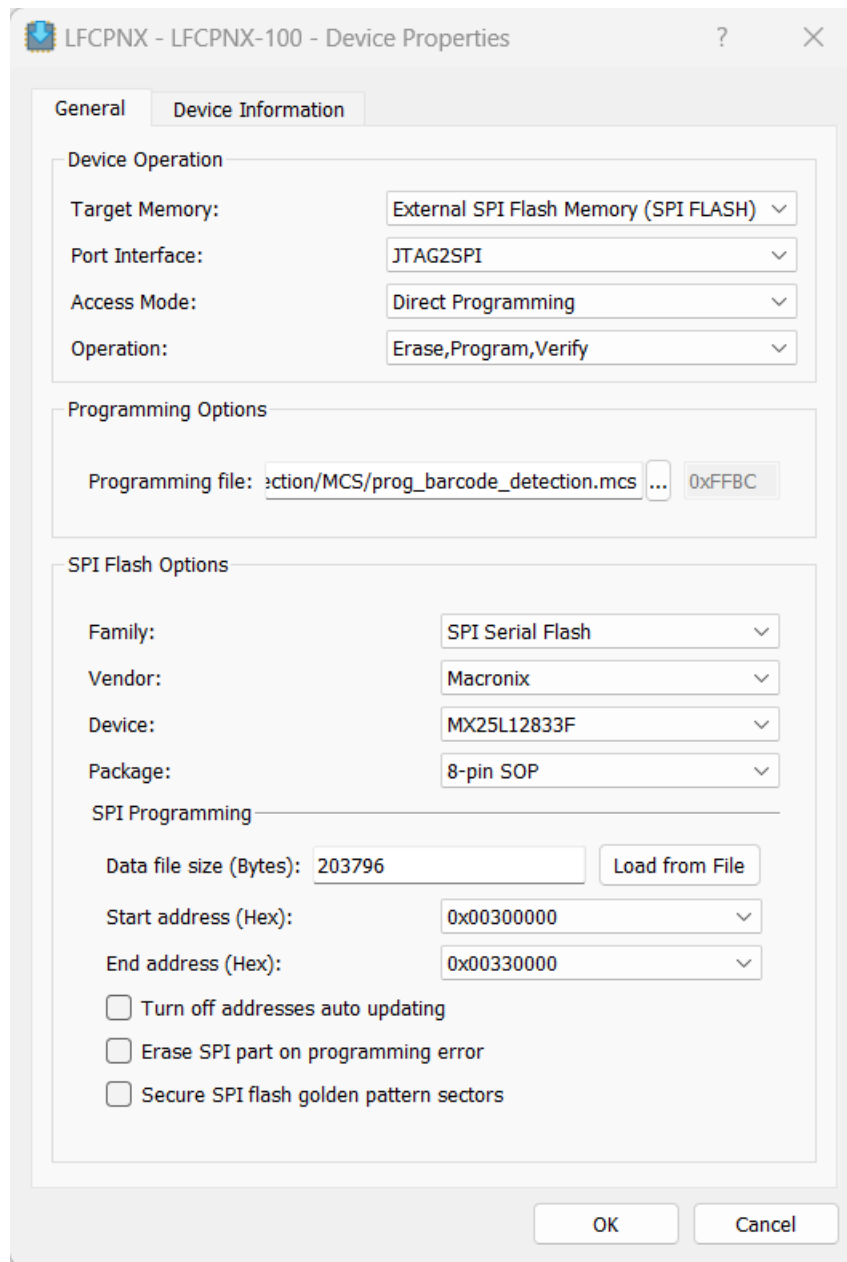

Figure 4.9. Radiant Programmer – Selecting Device Properties Options for CertusPro-NX Flash
4. In the Device Properties dialog box, configure the options as shown in Figure 4.9.
- b. For SPI Flash Options, select the configurations as shown in Figure 4.9 to select the **Macronix 25L12833F** device.